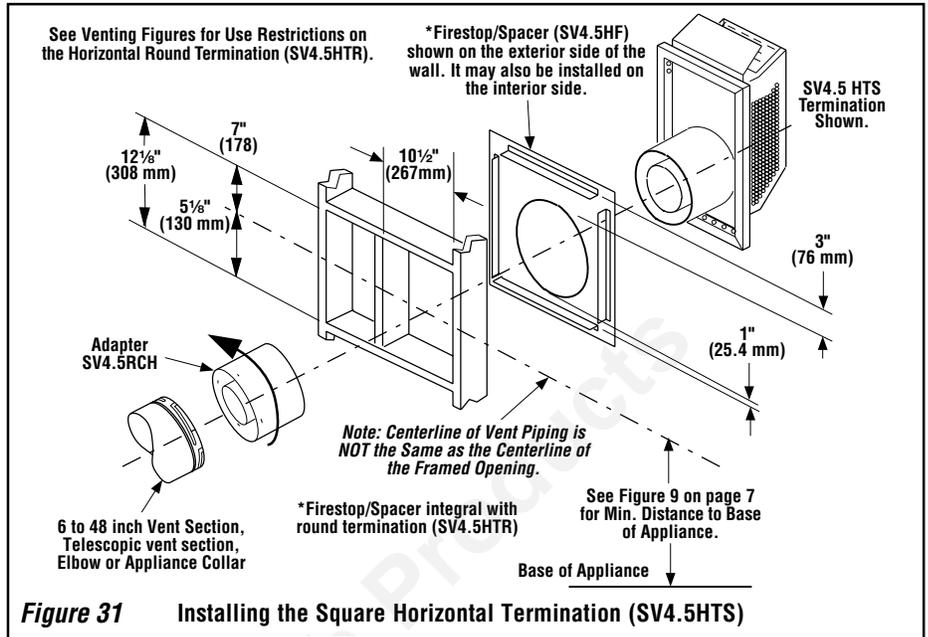

Figure 31 Installing the Square Horizontal Termination (SV4.5HTS)
K. Attach termination adapter - Attach the adapter (adapter - SV4.5RCH - provided with the termination) to the vent section or telescoping vent section, elbow or appliance collar as shown in **Figure 31** in the same manner as any SV4.5 vent component (refer to **Step E**).
L. Install Firestop/Spacer at exterior wall - When using the **square** termination, install SV4.5HF (Secure Vent), SF4.5HF (Secure Flex) Firestop/Spacer over the opening at the exterior side of the framing, long side up, with the 3 inch spacer clearance at the top as shown in **Figure 31**, and nail into place.